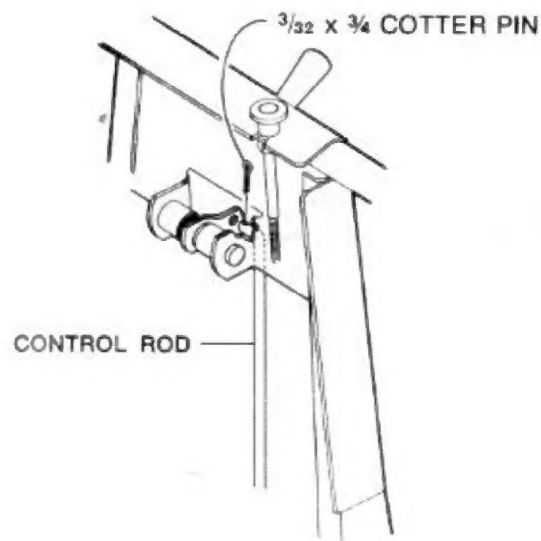

FIG. 9
C. Insert the hooked end of control rod through the hole provided in the control lever on the back-side of handle, Fig. 9, and secure in place with a  $\frac{3}{32} \times \frac{3}{4}$  cotter pin\*.